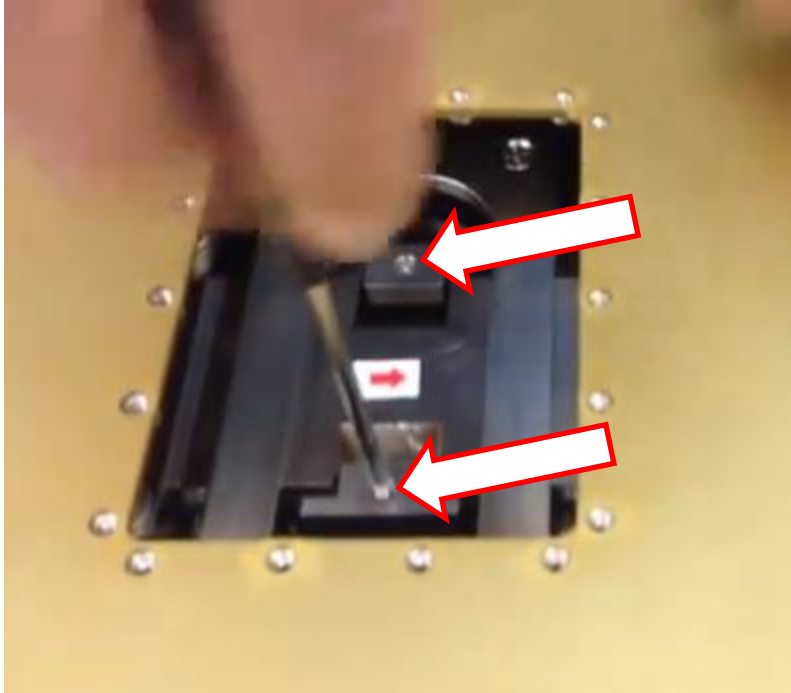

Figure 14: Removing Screws Underneath Access Panel
2. Using the Phillips-head screwdriver, remove the two small screws visible once the access panel has been removed (Figure 14).